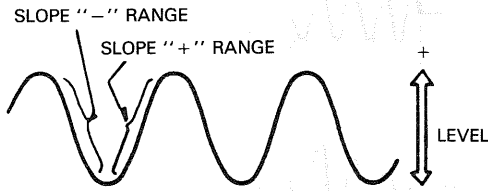

Fig. 9
Trigger point on waveform is adjusted by the LEVEL/PUSH SLOPE ⑳ control. Fig. 9 shows the relationship between the SLOPE and LEVEL of the trigger point. Triggering level can be adjusted as necessary.